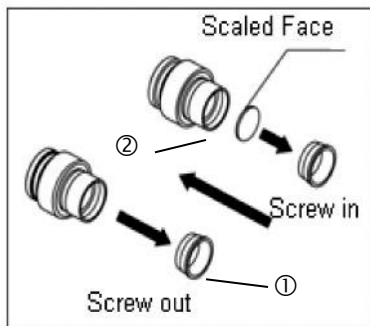

Fig. 7
## Installing or Removing the Reticle (Fig. 7)
Unscrew the reticle retaining ring ① from the eyepiece (see Fig. 7).